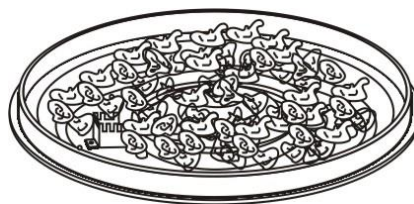

Figure 4
2. Pour all of the lava rocks into the burner pan. Completely cover the burner tube with lava rocks as shown in Figure 4.